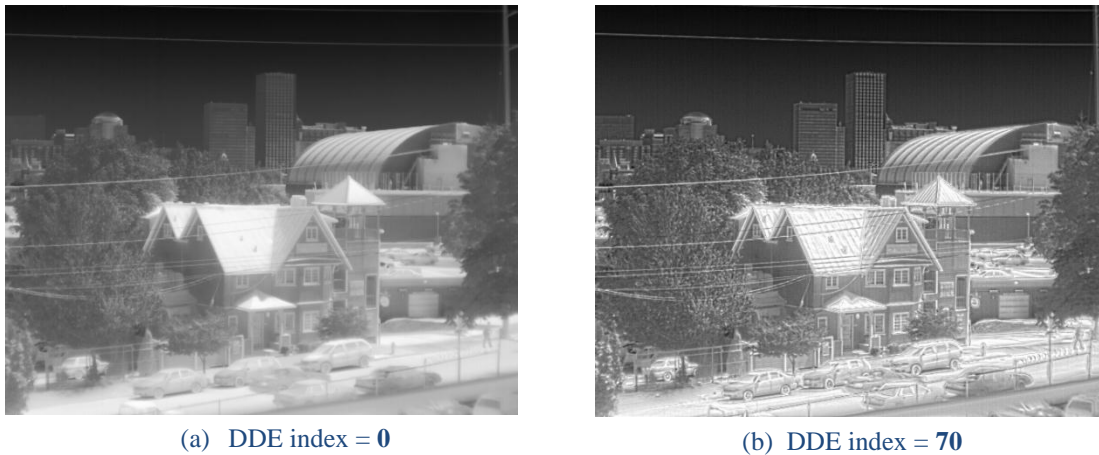

Figure 4: Illustration of Detail Enhancement with DDE
- **Dynamic mode:** DDE parameters are computed automatically based on scene contents. DDE index (which supplants the spatial-threshold parameter used in the manual algorithm) is the only controlling parameter and ranges from -20 to 100 for Tau 2.7 and later releases, with higher values representing higher degrees of detail enhancement. If no enhancement is desired, the value should be set to 0. Values less than 0 soften the image and filter fixed pattern noise, as exemplified in Figure 3. Values greater than 0 sharpen the details in the image, as shown in Figure 4. For previous Tau 1 and Tau 2 releases, the DDE index ranged from 0 to 63, where 0 to 16 softened the image, 17 was neutral, and 18 to 63 sharpened detail.